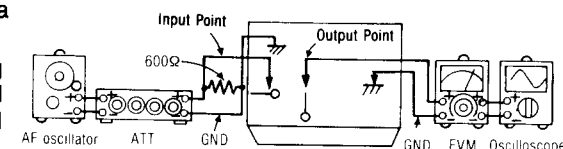

Fig. 6
1. Test equipment connection is shown in Fig. 6, and connect a jumper of TP6. (See page 9).
1. Test equipment connection is shown in Fig. 6, and connect a jumper of TP6. (See page 9.)
5. If it is not within the standard, adjust VR7 (L-CH) {VR8 (R-CH)} and repeat the step (2), (3) and (4) until the output is within the standard.